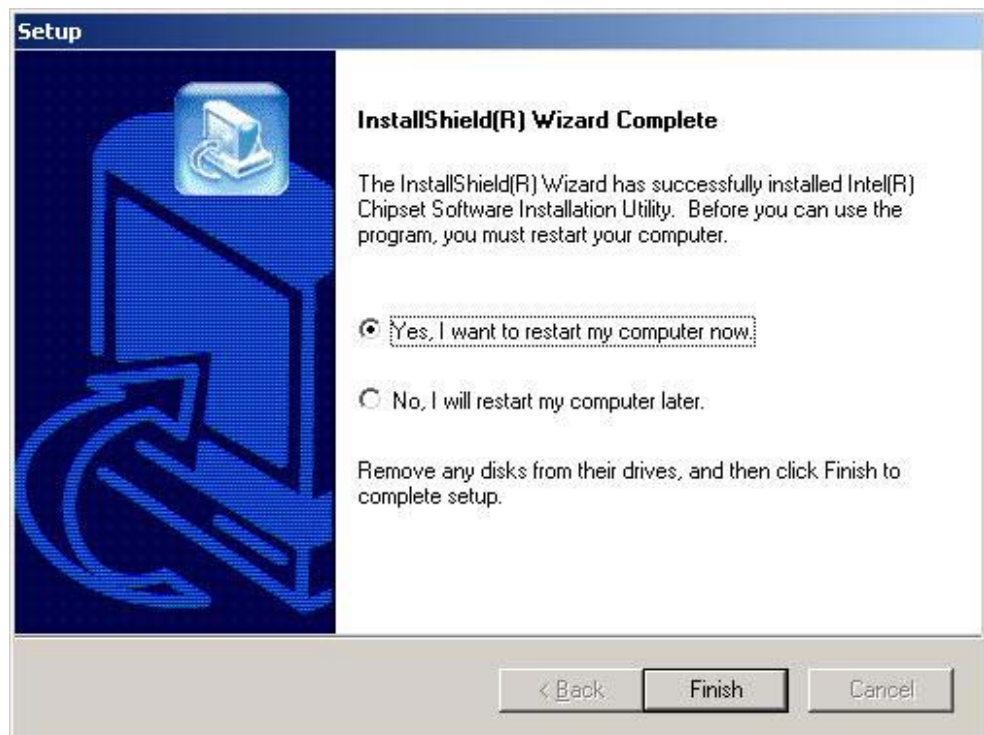

Figure 6-5: Restart the Computer
- Step 6:** Click **“Yes”**. The driver is installed on the computer. After the installation is complete, the installation complete screen shown in **Figure 6-5** appears. Select the preferred option and click **“Finish”** to complete the installation process.